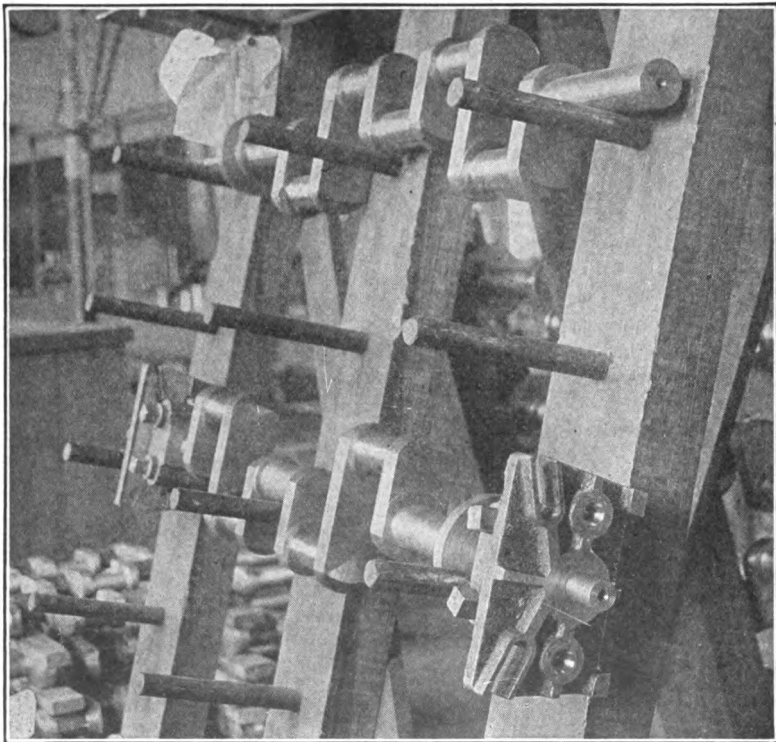

Fig. 73. Dogs for Use in Turning Four-Cylinder Crankshafts
**Handling Shaft in Machines.** When the crankshaft is to be machined, no matter what the form of lathe, grinder, or other machine, the fact that the pins are eccentric necessitates a special dog or jig for holding it. If an ordinary flange is bolted on the end, the main pins can be turned, smoothed down, or ground, but the crankpins cannot. What these latter need is a form of flange or plate with two exact centers on either side of the central one at distances exactly equal to the crank throw. One is shown in Fig. 73, which is attached to a four-cylinder shaft all ready for the machine. Above will be